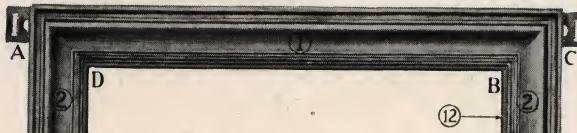

Figure No. 29A
Figure No. 29A shows the double KND Brackets attached to the outside edge of the side casings (2) at points A and C where the brackets should be fastened when it is desired to cover the entire window with draperies. Kirsch KN or KND Brackets are also designed for use when the window opening only is to be draped, exposing all the woodwork. To drape in this manner, the brackets are placed at points D and B, in which case the bracket at point A is attached at point B and the bracket at C is attached at point D.
Kirsch KN or KND Brackets may be used on this type of window frame in the same manner as illustrated and described in Figure No. 29A.
It is either a matter of choice or it depends upon the style of window draperies used whether the curtain rod brackets are fastened to the head casing (1) or to the side casings (2). We recommend that the rod brackets be placed on the head casing (1) so as to show an equal margin of woodwork at the top and sides of the draperies. If it is desired that the draperies should cover the entire window frame, or if the entire window frame is to be exposed, use Kirsch KN or KND Brackets attached to the casing as illustrated and explained in Figure No. 29A, page 26.
Kirsch KN and KND Brackets may be used when the window opening only is to be draped, exposing all the woodwork, or when it is desired to cover the entire window with draperies. When the window opening only is to be draped, the shades must be hung on the inside of the casing. When it is desired to cover up the woodwork or to give the appearance of greater width to a narrow window, the brackets should be mounted on the outer edge of the casing. For further detailed use of the KN and KND Brackets, refer to Figure No. 29A, page 26.